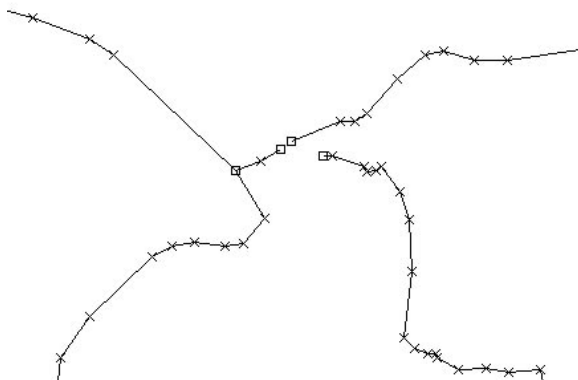

Figure 3.16: Dead ends in segments, near H in the map of Figure 3.15.
- Click Yes to zoom in on the area around H. The situation near H is shown in Figure 3.16.